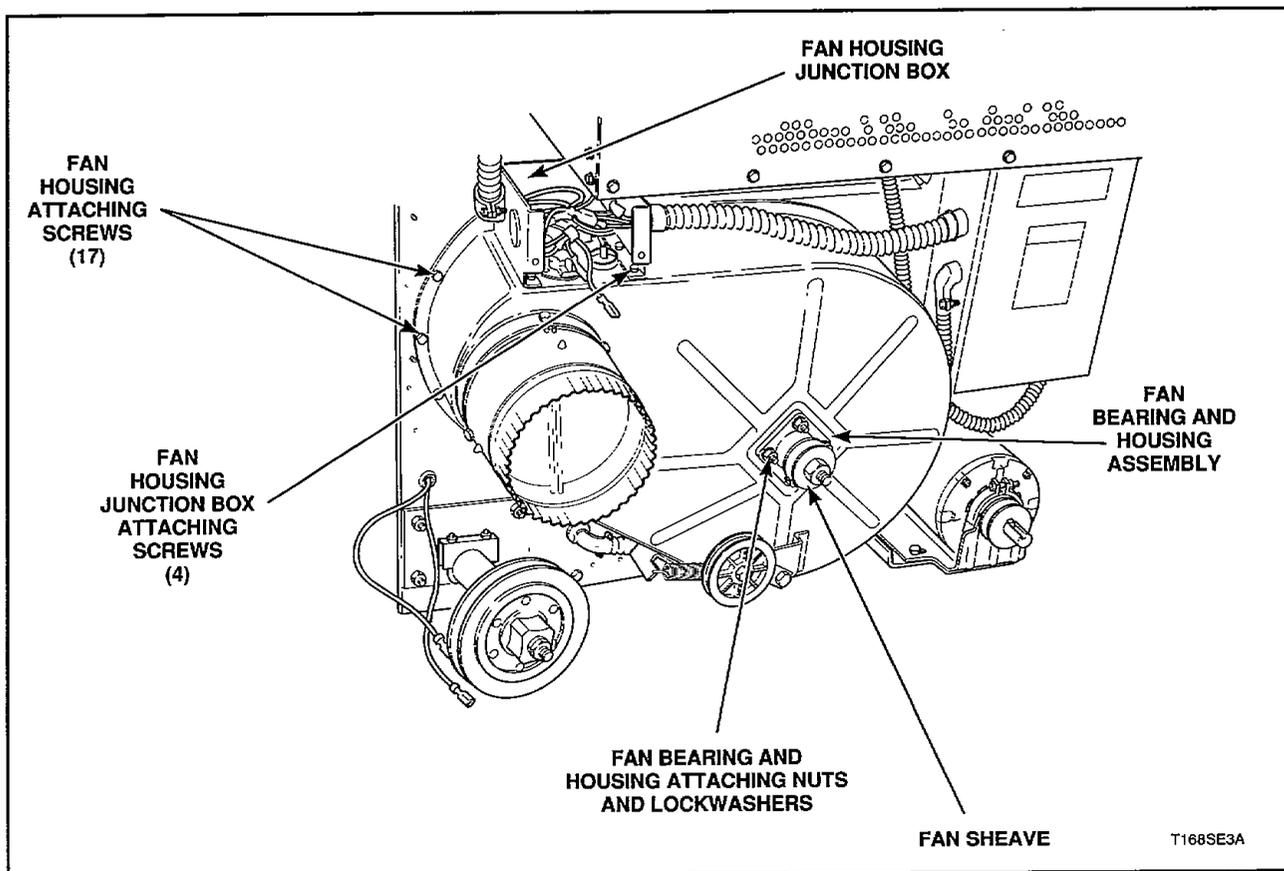

Figure 27
- Remove screws from fan housing junction box cover and remove cover, *Figure 27*.
- Remove 17 screws holding fan housing to cabinet back, *Figure 27*.
- Loosen fan sheave setscrew. Remove fan sheave, Figure 27.